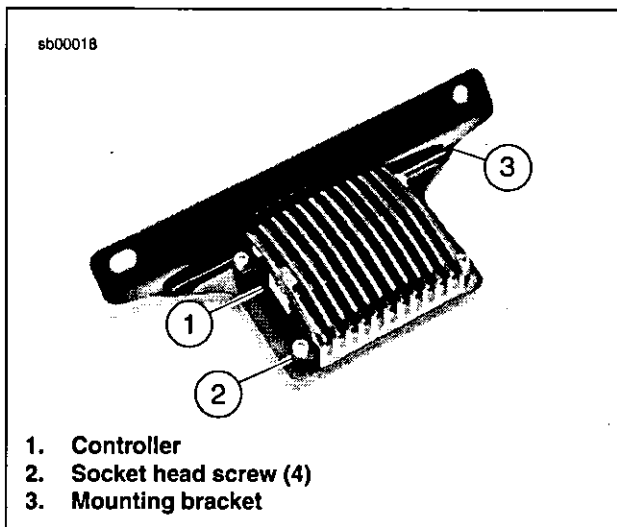

Figure 3. Controller and Mounting Bracket Assembly
4. See Figure 3. Remove controller (1) from mounting bracket (3) by removing four screws (2).
7. See Figure 3. Install controller (1) to **new** mounting bracket (3) using **new** screws (2) provided in kit. Tighten screws to 5.6-6.8 Nm (50-60 in-lbs).